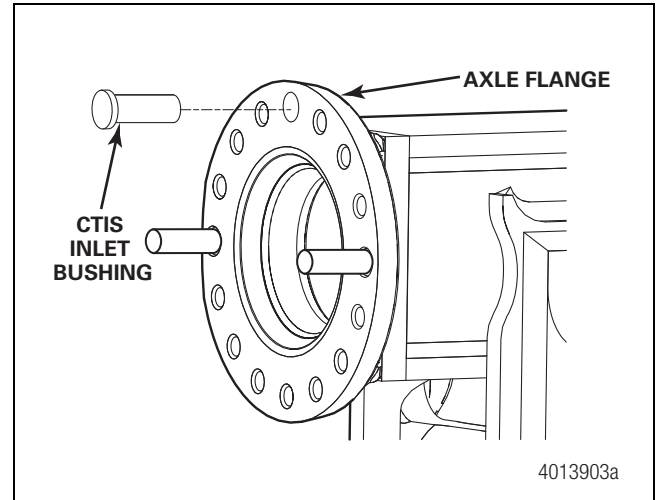

Figure 3.13
17. If the optional feature CTIS inlet bushing in the axle end requires replacement, press it out from the outer side of the housing flange. Figure 3.13.